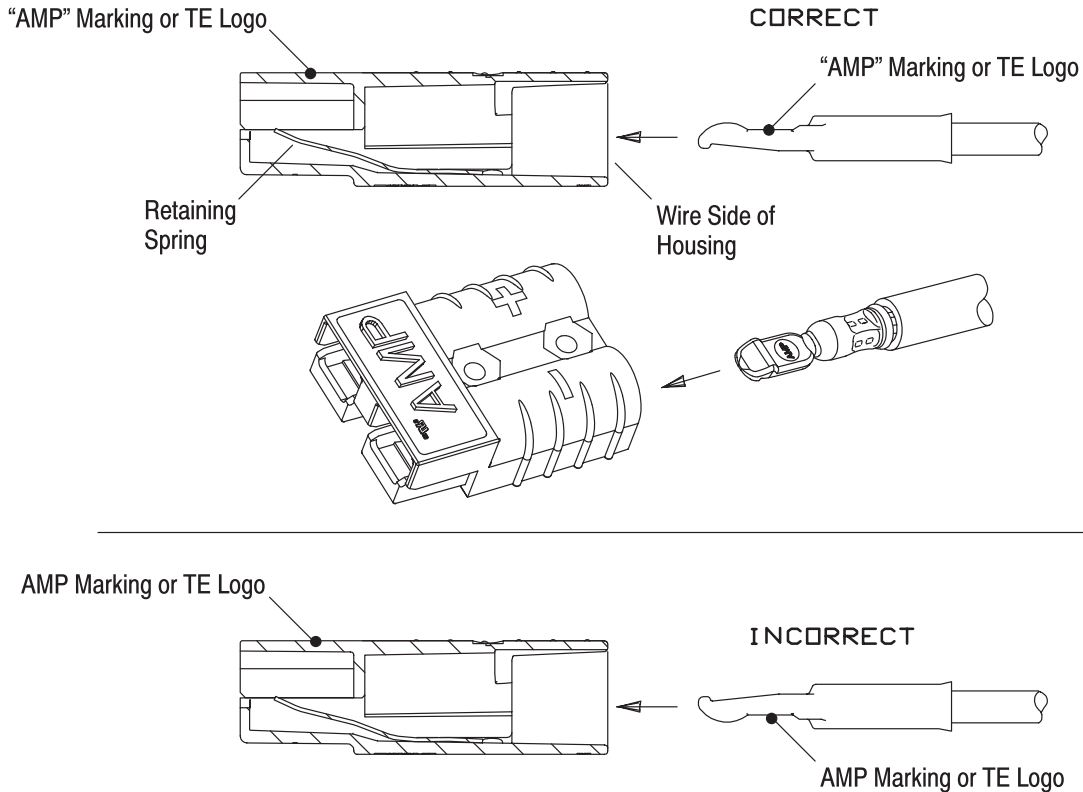

Figure 7
- Added Figure 7
The contacts must NOT be forced into the housing. Each contact must be installed in the housing according to the following requirements (shown in Figure 7).